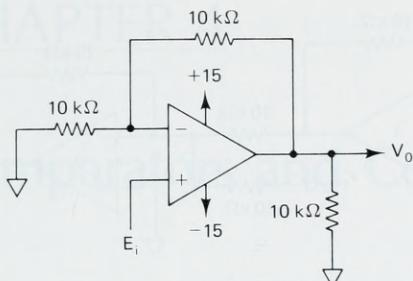

FIGURE P3-9
- 3-9.** Identify the circuit in Fig. P3-9 and calculate V_o if E_i equals (a) +5 V; (b) -2 V. Compare your results with Problem 3-5.
- 3-10.** Repeat Problem 3-7 except apply it to Fig. P3-9. Compare solutions of both problems to distinguish between inverting and noninverting operation.